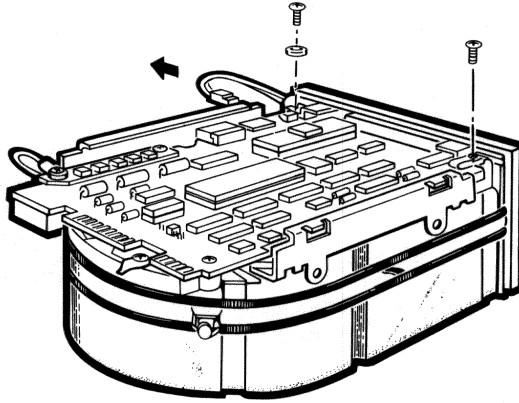

Figure 6-6 2-pin Connector and Screws Removal (RD52)
2. Unplug the 2-pin connector. (Figure 6-6)